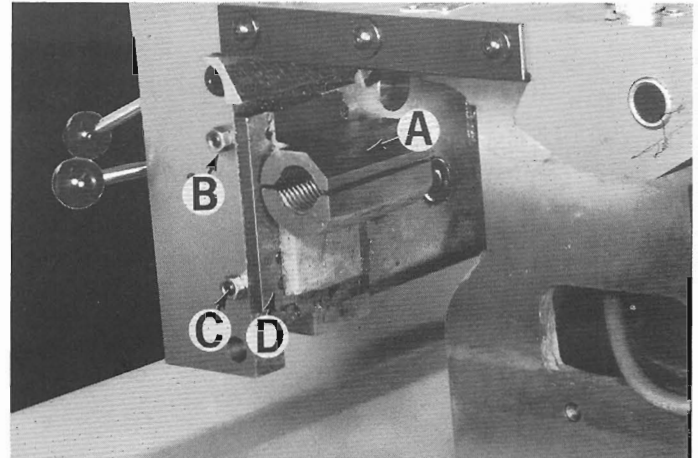

Figure 138 — Lead Screw Nut
4. Hand feed carriage to right until travel stops. Pull carriage by hand past end of bed until lead screw nut "A", Figure 138, clears.
6. Remove two dot plug covers "J", Figure 129. Remove two screws under covers "J". **HOLD GIB "D", FIGURE 138,** to prevent it from dropping from position.
4. Replace both halves of lead screw nut, Figure 139, placing lead screw nut pins in cam slots "H", Figure 141. Replace gib "D", Figure 138. Replace and tighten securely two screws. Replace covers "I", Figure 129.
6. Alternately tighten two screws "C", Figure 138, until pressure is required to close half nut. Tighten securely two lock nuts "B".